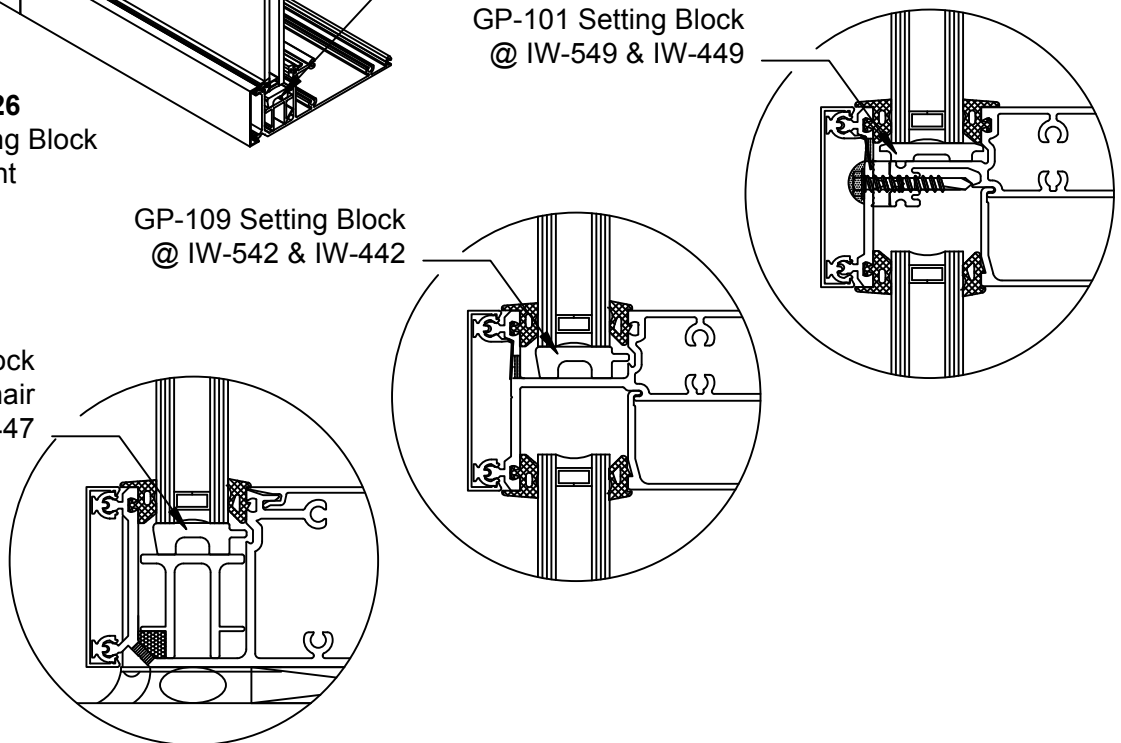

**FIGURE 26**
**Note:** Consult glass manufacturer for correct setting block location and length for glass sizes in excess of 40 sq. ft. SEE FIGURE 26, page 24.
- 4.3 Set glass in opening from the interior. System should be glazed from bottom to top. Place one edge of the glass into the deep pocket of the vertical. Swing the glass into the adjacent vertical pocket and lower onto setting blocks, ensuring that the glass bite is equal on all sides. SEE FIGURE 26, page 24.